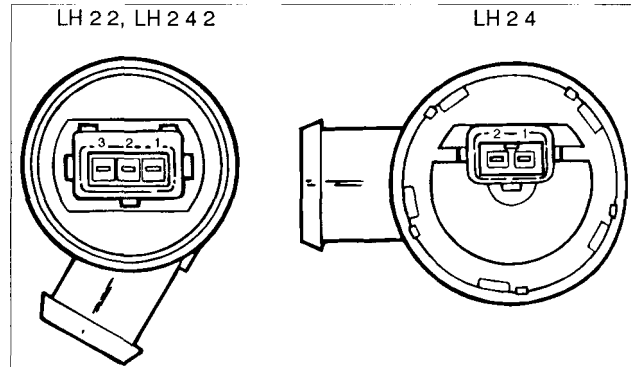

Fig. 24. Idle control valve terminals
- 2 If the valve is not buzzing, or if idle decreases, stop the engine and disconnect the harness connector from the valve. Check the resistance of the valve across its terminals. Fig 24 shows the valve terminals. **Table j** lists the test terminals and results. If resistance is incorrect, replace the valve. If resistance is OK, test for power to the valve as described below.